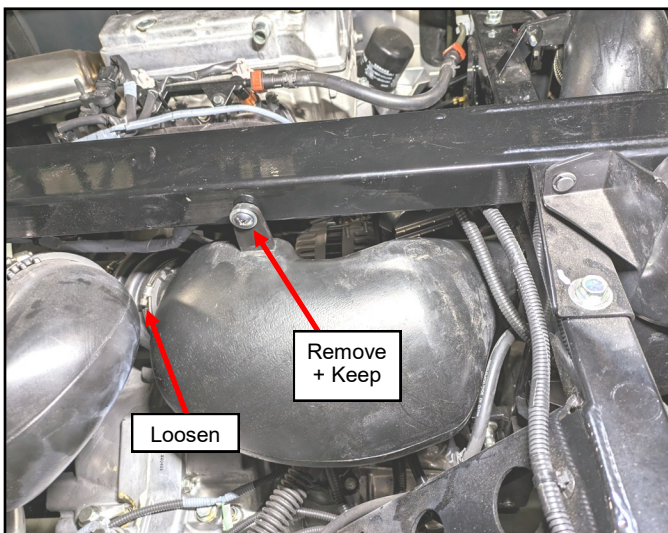

Fig. 2.10a (Remove Intake Duct Assembly, Back View)
- 2.10 Remove and set aside transmission intake duct assembly by loosening the lower clamp and removing (2) mounting screws found on the vehicle's frame per fig. 2.10a & 2.10b.